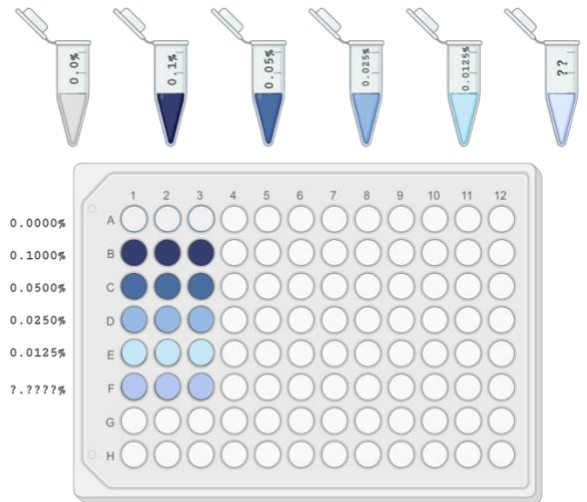

Figure 2-6 Layout of a 96-well plate for 5 standards and a mystery sample in triplicate.
- 3.2. Prepare 100  $\mu$ L samples in triplicate (that means 3 x 6 different wells. That is, 5 standards plus 1 mystery sample) on a clean transparent 96-well plate. See example in Figure 2-6.